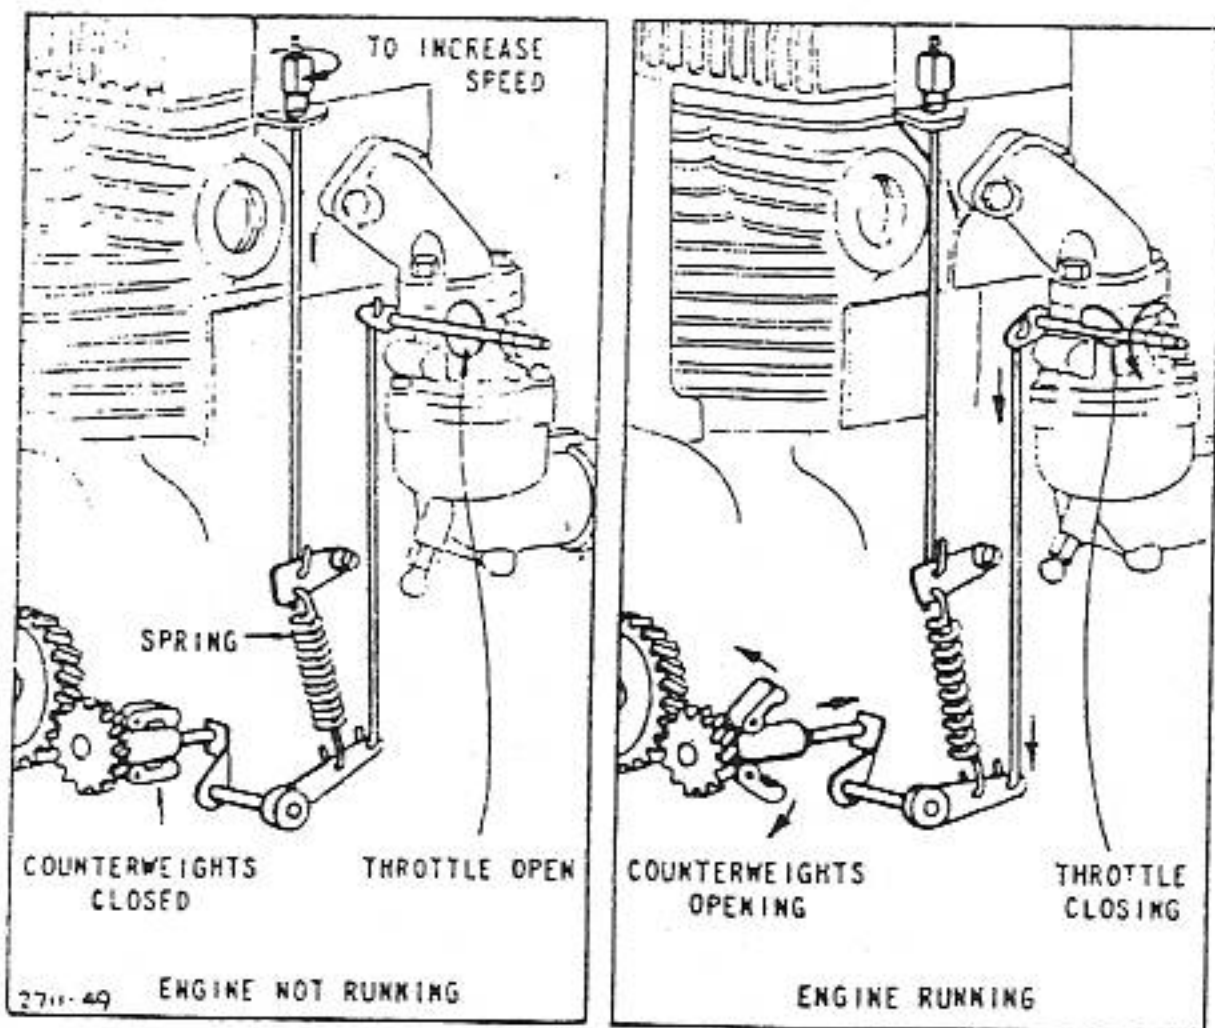

FIG. 60—MECHANICAL GOVERNOR
1. **MECHANICAL GOVERNOR.** This is a centrifugal type operated by the cam gear and is linked to the carburetor throttle. Fig. 60.